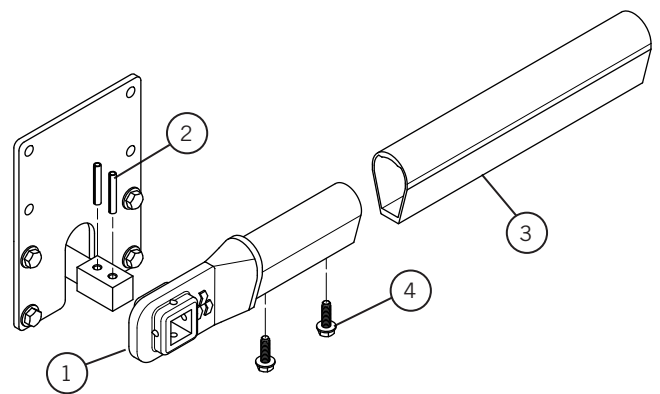

Figure 29-1
1) **Figure 29-1.** Place end fitting (1) on the driver's side tension spring assembly shaft so it is facing the rear.
2) **Figure 29-1.** Drive 1/4" spring pins (2) into the end fitting (1) and through the shaft.
4) **Figure 29-1.** Place swing arm lower aluminum (3) onto casting and secure with 5/16-18 x 2 HWH Type F (4).